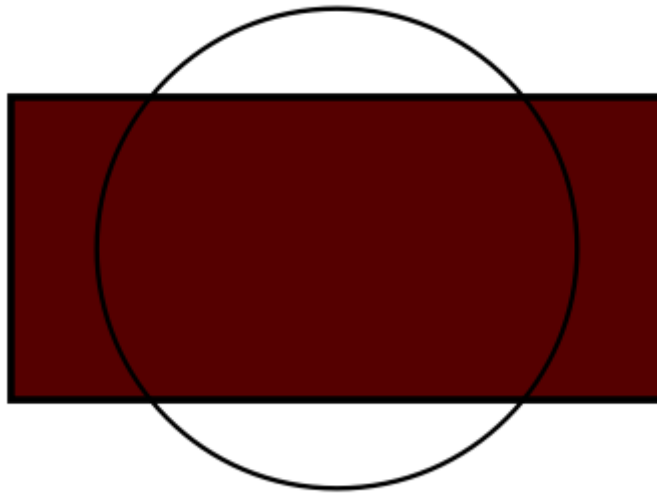
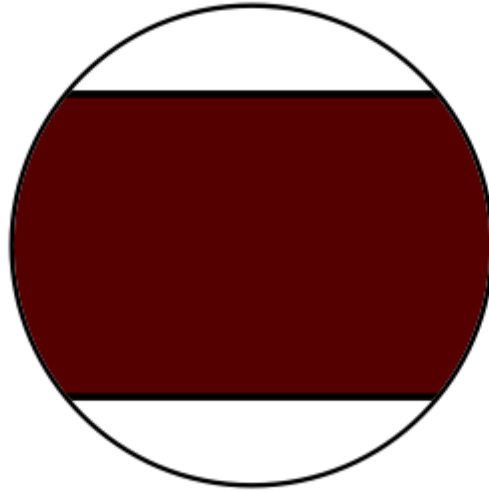

Figure 18.27: Rectangle and ellipse before clipping.
Figure 18.28: Rectangle and ellipse after clipping.
- The before and after effect of clipping can be seen in Fig. 18.27 and Fig. 18.28.